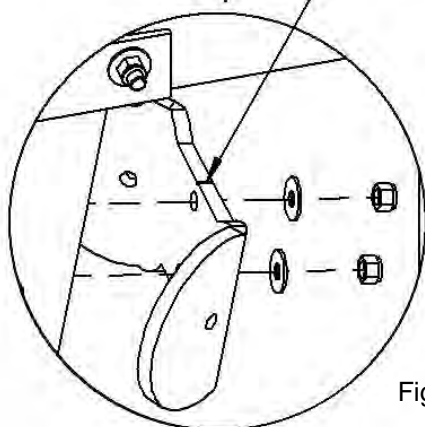

Figure 7A
Note: The Pec Pulley Holder (21) can very easily be put on upside down. Note that the notch represents the top, as Shown in Figure 7A.